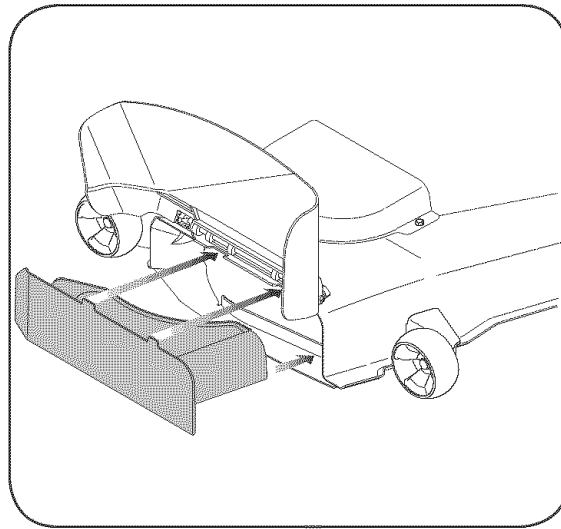

Figure 8
1. Pivot the discharge chute up to access the deck opening. See Figure 8.
2. Insert the mulch plug, aligning the top edge of the plug with the deck as shown in the Figure 8. Make sure the notches on the plug are in the slots on the deck opening.